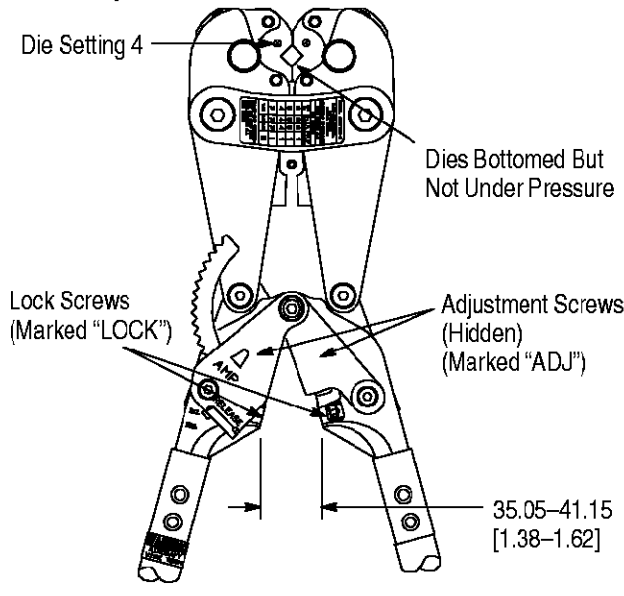

Figure 7
4. Measure the distance between the tool handles as shown in Figure 7. The measurement must be between 35.05 and 41.15 [1.38 and 1.62]. If it does not fall within this range, the handles must be tightened or loosened as necessary.